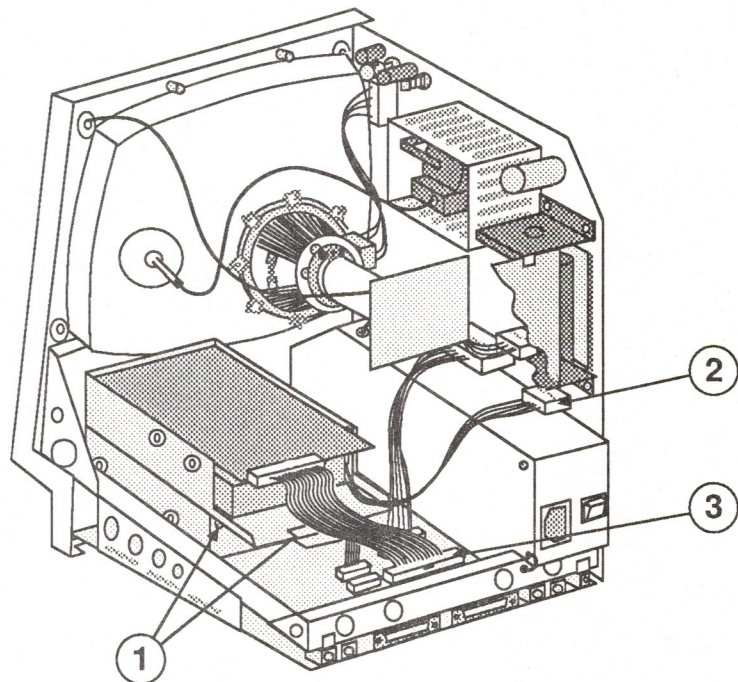

FIGURE 23
3. Replace the two screws that secure the hard disk housing to the lower drive housing (Figure 23, #1).
4. Reconnect the hard disk drive power supply cable to the analog board (Figure 23, #2).
5. Reconnect the drive cable to the main logic board (Figure 23, #3).